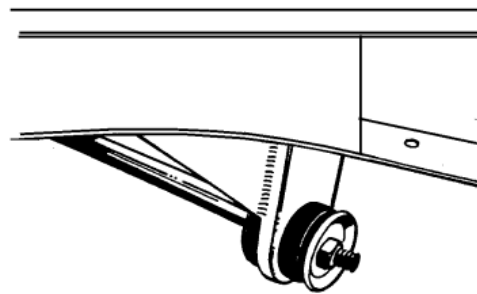

Figure 11- Strut Rod Install
- 12.) Install the strut rod onto the control arm. Now, assemble onto the strut rod the large rubber bushings, including the cupped washers, and the strut mount plate. Be certain to fully tighten the nut on the strut rod to its fully seated position. (See **Figure 11**) There are two rubber bushing sets available; the standard replacement and the improved set. We recommend the improved set, as it provides more stability to the front suspension. The Pinto and Mustang strut rods are different lengths. We recommend the use of Pinto strut rods, as they are bent less than the Mustang strut rods. You will find that with either strut rod the strut rod plate does not line up with the bottom of the frame rail. The strut rod must be heated in the elbow area and bent outward. The rod is bent outward until the strut mounting plate lines up to the frame rail. You will find that because the Pinto strut rod is initially bent less and requires much less bending. The strut rod will act as an alignment fixture while you tack weld the mount plate in place, then tack weld the gusset in place. Remove the strut rod, bushings, and arm, and finish welding to the frame and each oth